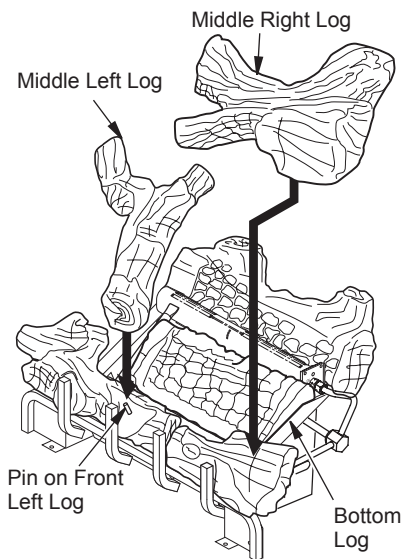

Figure 25 - Installing Top Logs
5. Place middle right log over front right and bottom logs as shown in Figure 25. Be sure hole in middle right log seats over pin in bottom log.
6. Place middle left log over front left and bottom logs as show in Figure 25. Be sure hole in middle left log seats over pin in front left log.